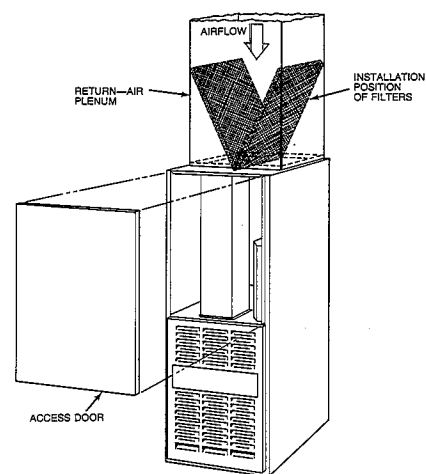
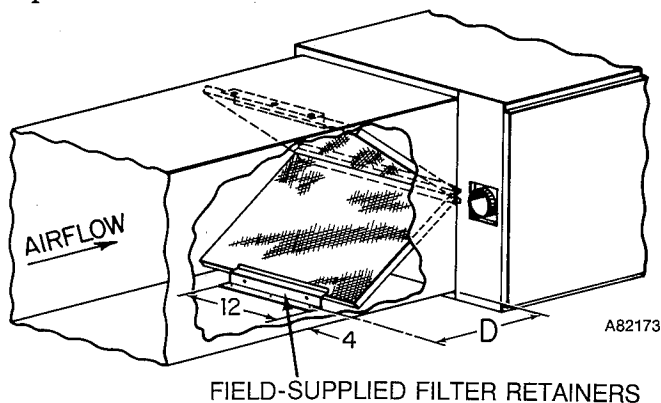

Fig. 9—Position of Filters
Fig. 8—Horizontal Filter Arrangement
- a. Install field-supplied filter retainers as indicated in Fig. 8 and Table 4 before connecting return-air duct to furnace.
to the furnace, install the filters in a V-formation inside the return-air plenum. See Fig. 8 and Table 4 for horizontal applications. Horizontal filter retainers must be field supplied. See Fig. 9 for downflow applications.